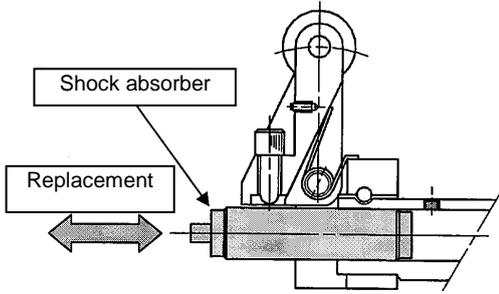

Fig. 12
- ② While pushing down the lever, remove the shock absorber and replace it with a new shock absorber. Tighten the hexagon socket head set screw (M3 x 0.5) of the piston rod. (See Fig. 12) Stop tightening around 1/4 turn after the set screw comes into contact with the shock absorber. If the hexagon socket head set screw is tightened too much, operation failure of the shock absorber can result.